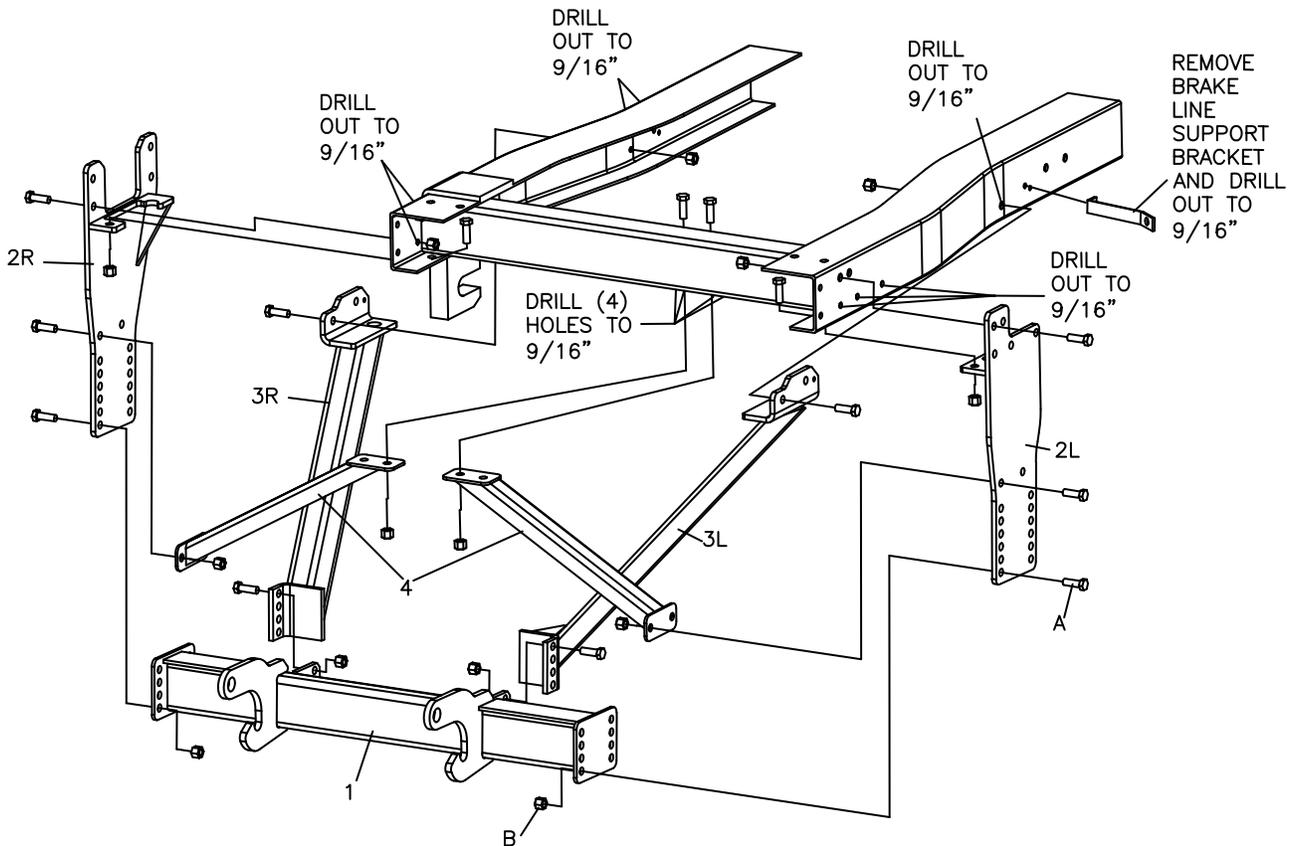

Figure 1
1. Remove the (6) bolts securing the bumper brace to the frame. Remove the front bumper. Position the PUSH BEAM SUPPORT PLATES (Ref. 2R and 2L, Fig. 1) to the front frame rails of the truck. Using (11) HDW01728 1/2-13x1-1/2 GR5 bolts, and (11) HDW01748 1/2-13 NYL INS nuts, fasten the PUSH BEAM SUPPORT PLATES in place. Using a 9/16" drill, drill out the corresponding truck frame hole locations. There should be 3 existing 7/16" holes on the left hand side and 2 existing 7/16" holes on the right hand side that will need to be drilled out to accept the 1/2" fasteners. Fasteners should only be finger tight.
2. Fasten the PUSH BEAM ASSEMBLY (Ref. 1, Fig. 1) to the PUSH BEAM SUPPORT PLATES using (8) HDW01728 1/2-13x1-1/2 GR5 bolts and (8) HDW01748 1/2-13 NYL INS nuts provided. Again, leave all fasteners only finger tight.
3. Install the SUPPORT ANGLES (Ref. 4, Fig. 1) to the PUSH BEAM SUPPORT PLATES (Ref. 2R & 2L, Fig. 1) using (4) HDW01728 1/2-13x1-1/2 GR5 bolts and (4) HDW01748 1/2-13 NYL INS nuts provided. Next, mark and drill the corresponding holes in the trucks front upper crossmember. Using (4) HDW01728 1/2-13x1-1/2 GR5 bolts and (4) HDW01748 1/2-13 NYL INS nuts, bolt the SUPPORT ANGLES to the front crossmember.
4. Position the ANGLE BRACKET (RH) (Ref. 3R, Fig. 1) as shown in Figure 1 and attach to the PUSH BEAM ASSEMBLY (Ref. 1, Fig. 1) using the (2) HDW01728 1/2-13x1-1/2 GR5 bolts
5. Position and secure the other ANGLE BRACKET (LH) (Ref. 3L, Fig. 1) in the same manner as the ANGLE BRACKET (RH).